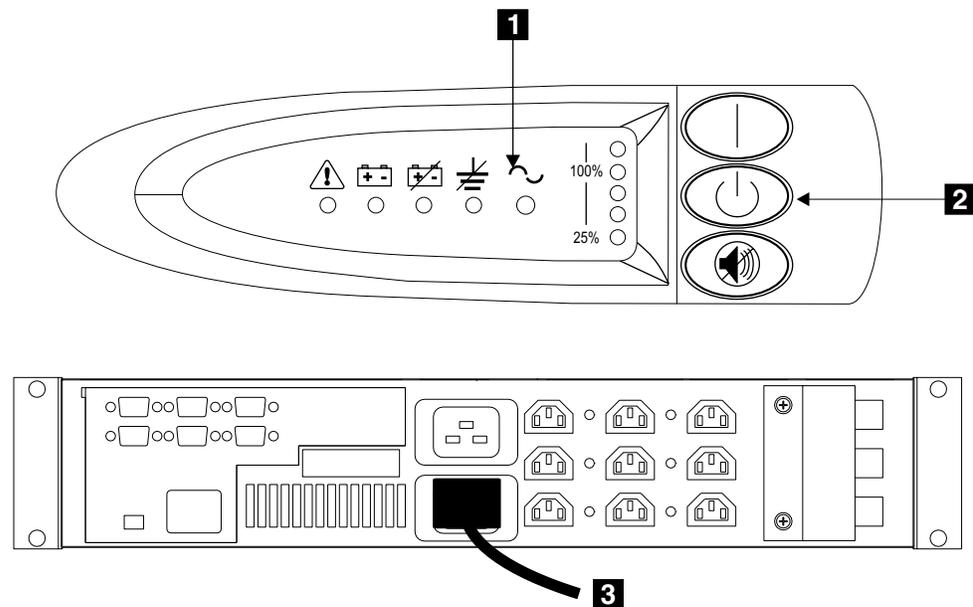

Figure 76. Removing the power cable from a uninterruptible power supply
2. See Figure 76. for an illustration of the front and rear view of the uninterruptible power supply.